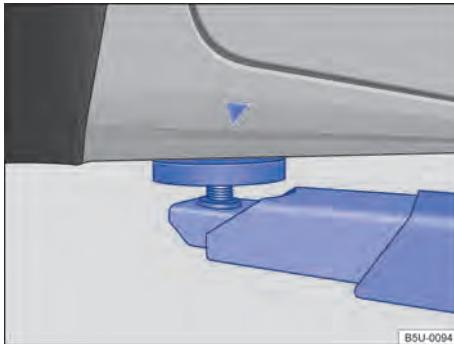
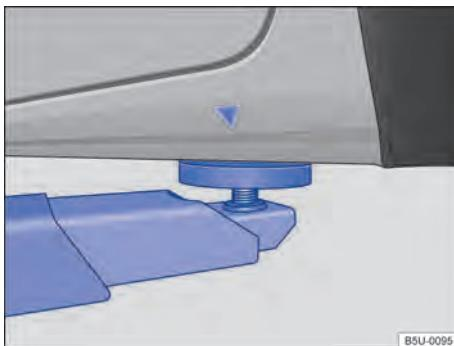

Fig. 208 Front lifting points for lifting with platform or vehicle jack.
Fig. 209 Rear lifting points for lifting with platform or vehicle jack.
The vehicle may only be lifted at the points shown in the illustrations → **Fig. 208** and → **Fig. 209**. If the vehicle is not raised on the
- The vehicle may only be lifted at the points shown in the illustrations → **Fig. 208** and → **Fig. 209**. If the vehicle is not lifted at the points shown, it could fall off the lifting platform when work is carried out, e.g. when the engine or transmission is removed.